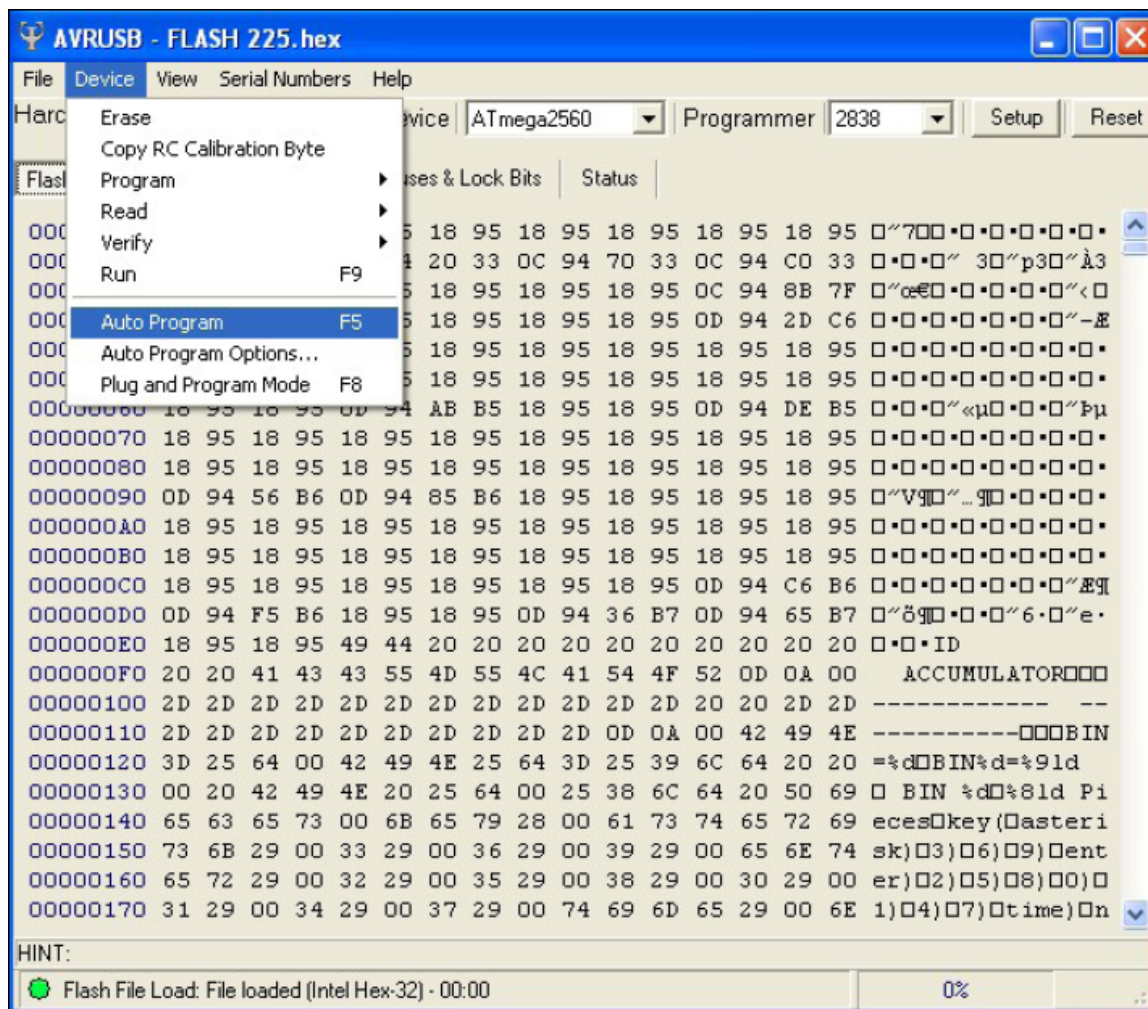

Figure 17
- Once the flash file has been successfully loaded into the AVR and the Fuse settings and Auto Program Options have been verified, either press F5 on the computer keyboard or select *Auto Program* from the *Device* menu to begin programming. See Figure 17.